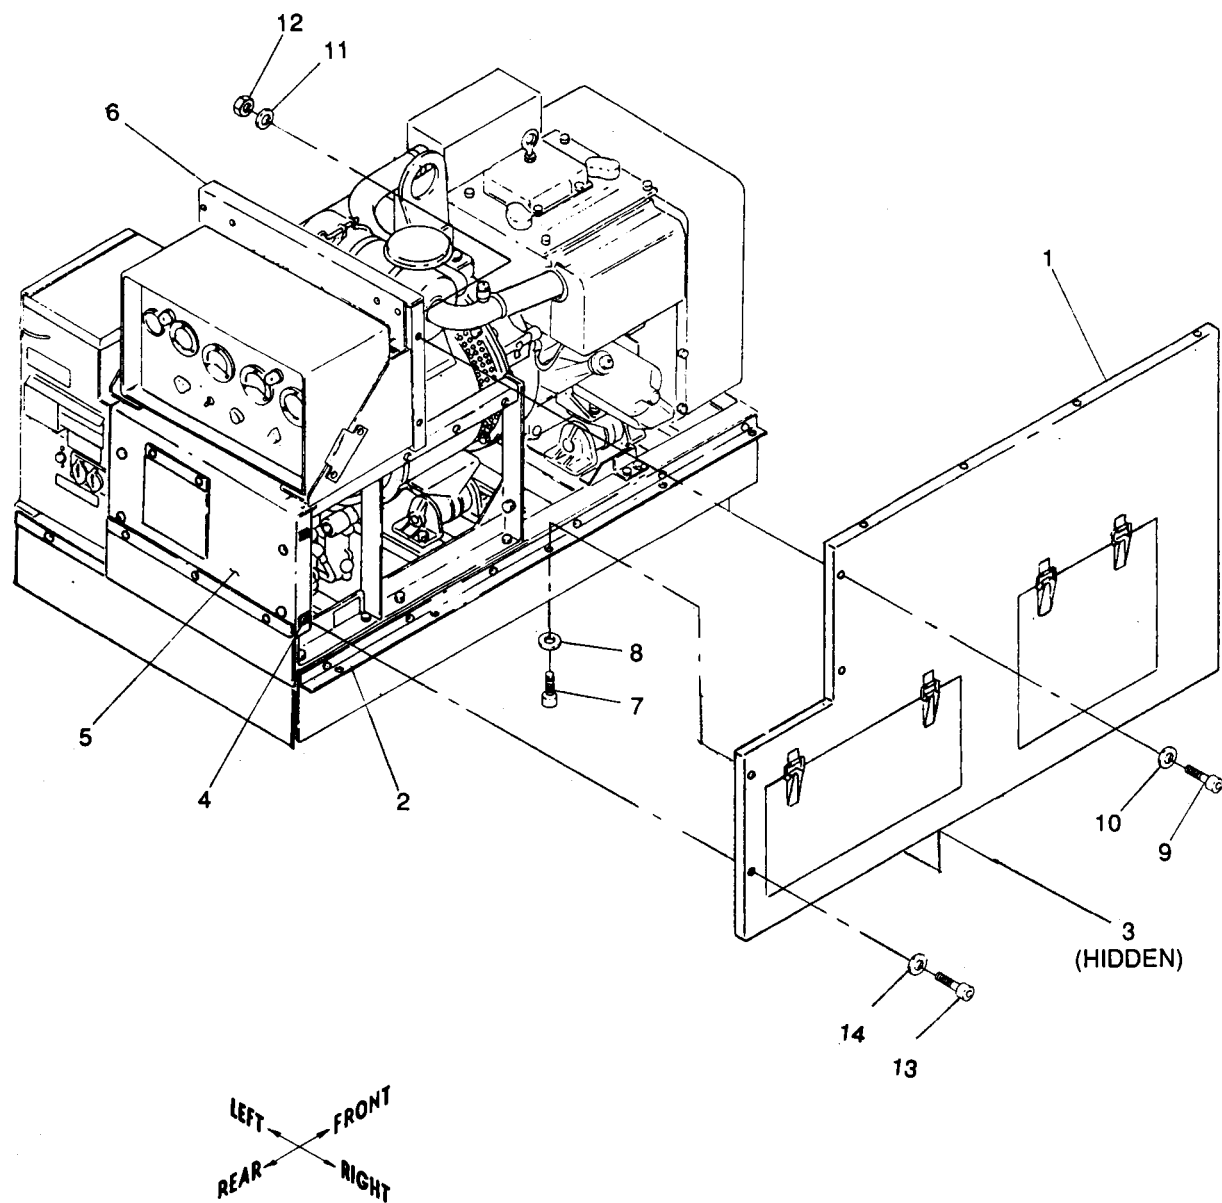

Figure 10-4. Installation of Right Panel Assembly
9.	Right Panel (Long Side) (1, fig. 10-4)
(1) Refer to figure 10-4 and clear out acoustic fill from holes in right panel assembly (1) using 3/8 inch diameter pin.
(2) Locate right panel assembly (1) on right support assembly (2) by aligning captive nuts (3) in right panel assembly (1) with holes in right support assembly (2). Align captive nuts (4) in rear panel assembly (5) with holes in right panel assembly (1). Align holes in rear closure assembly (6) with holes in right panel assembly (1).